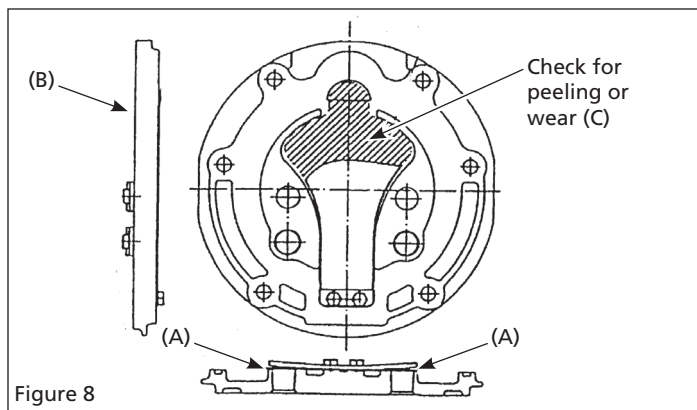

Figure 8
1. Check if exhaust valve (A) sticks to seat or is damaged (See Figure 8).
2. Check if there is breakage, gouge or damage to appearance of intake valve (B).
3. Lift intake valve 10 mm (3/8 inch) and check if there is peeling and/or wear on coating surface of valve set (C).